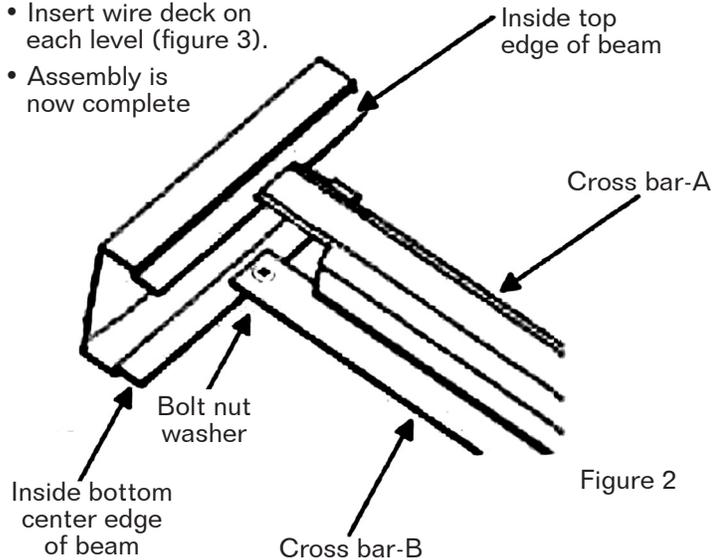

Figure 2
- The completed unit should have four (4) levels evenly spaced for maximum stability.
- Install cross bar B in each level by inserting and tightening the bolts, nuts, washers into the holes located along the inside bottom center edge of the beams(see figure 2)
- Install cross bar A in each level by inserting the tab located on both ends of the cross bar A into the slot holes located along the inside top edge of the beams (see figure 2)